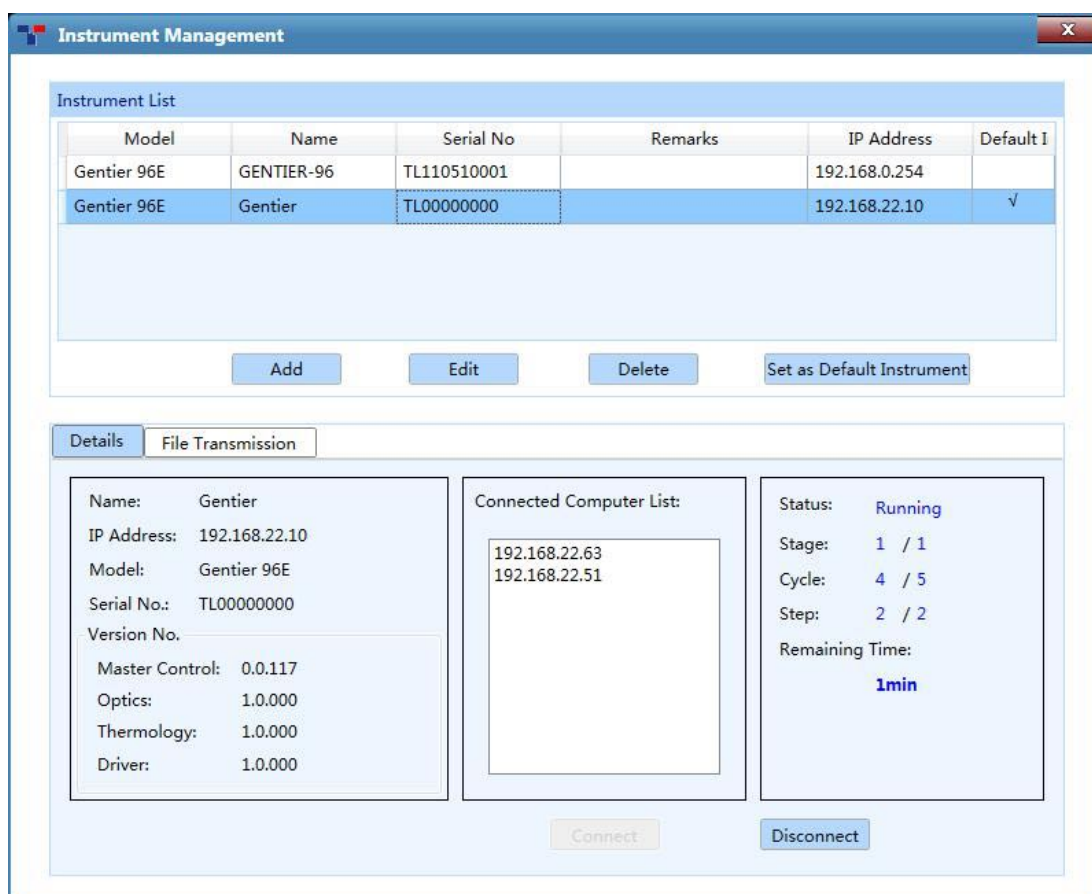

Figure D-3.2 Tool submenu - Instrument Management interface
1. **Instrument Management:** Click **Instrument Management** option in **Tool** submenu and the application software will automatically pop up the instrument management interface, which consists of these parts: **Instrument List**, **Details** tab and **File Transmission** tab, as shown in figure D-3.2. Users can manage all instruments within the LAN on this interface.